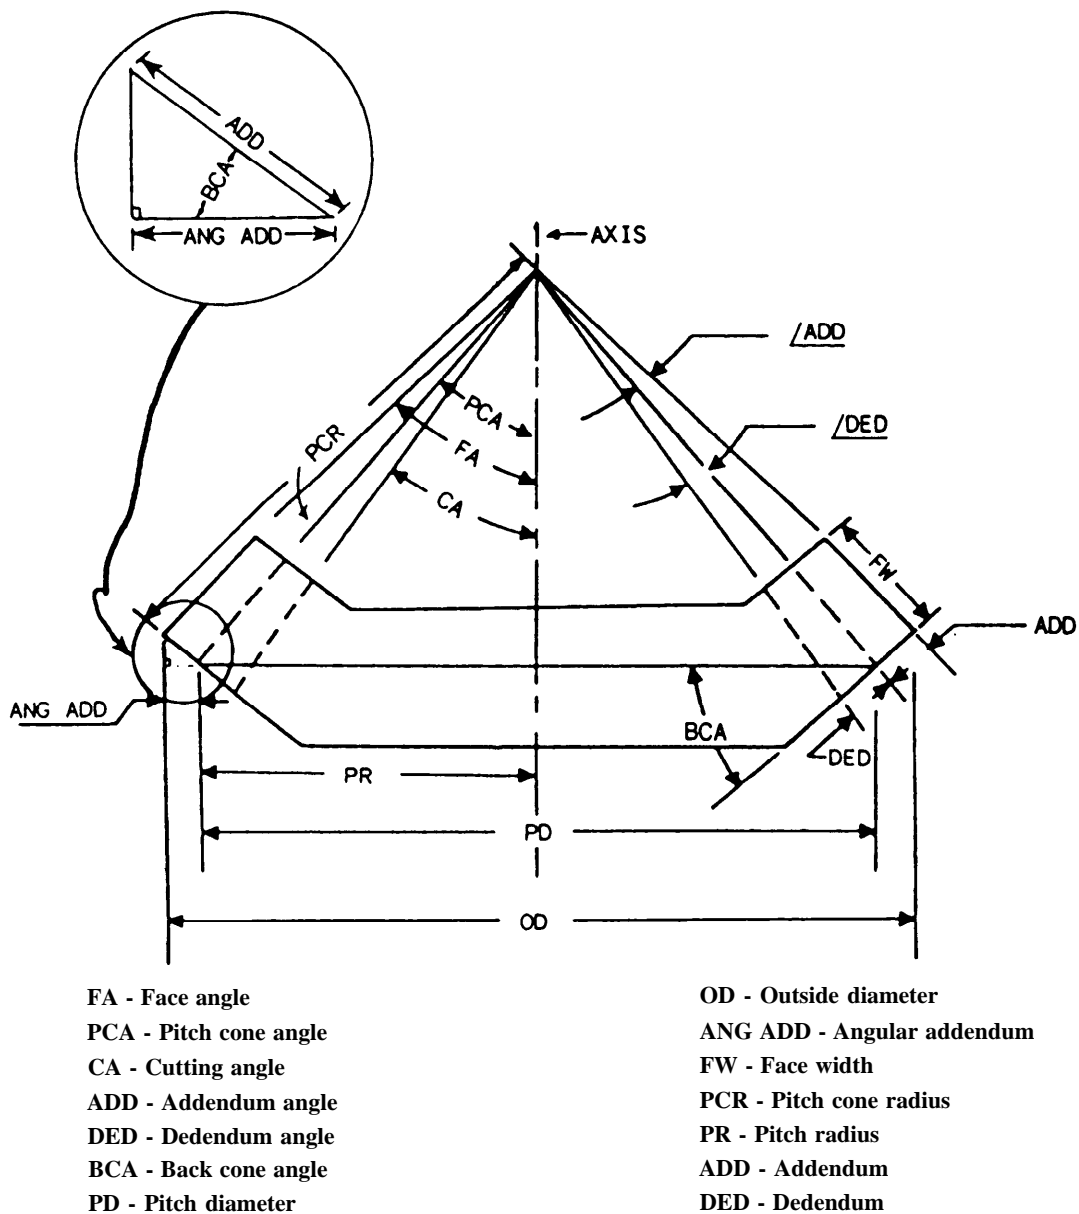

Figure 14-15.—Parts of a bevel gear.
The dimension nomenclature of the bevel gear is the same as that of a spur gear, with the exception of the angular addendum. Refer to figure 14-15.
5. Dedendum angle ($\angle DED$) (fig. 14-15)
6. Back cone angle (BCA or $\angle BC$) (fig. 14-15).
10. Tooth dimensions (TD)
11. Face width (FW) (fig. 14-15)